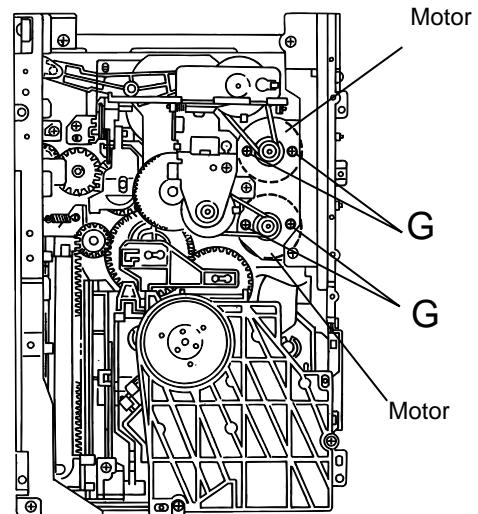

Fig.15
■ Removing the motors (See Fig.15)